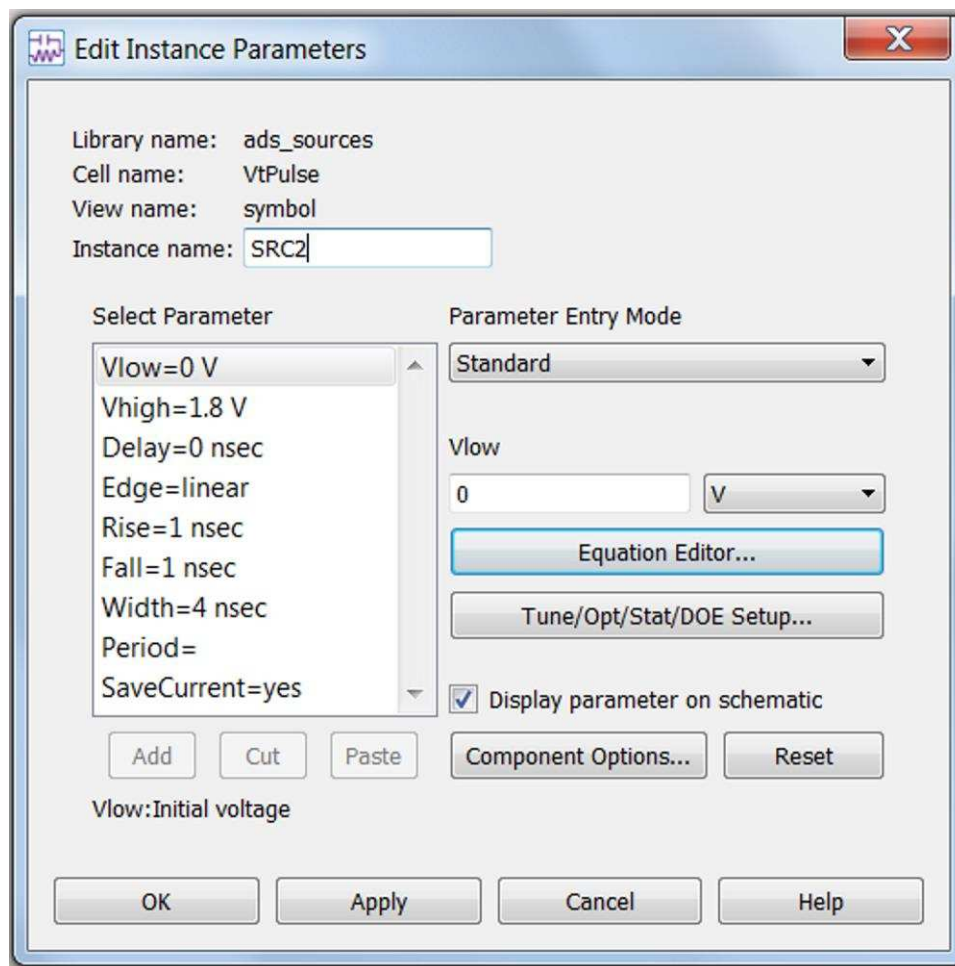

Figure 2. Pulse Source Configuration
6. Place a Pulse model on the schematic and configure according to Figure 2.